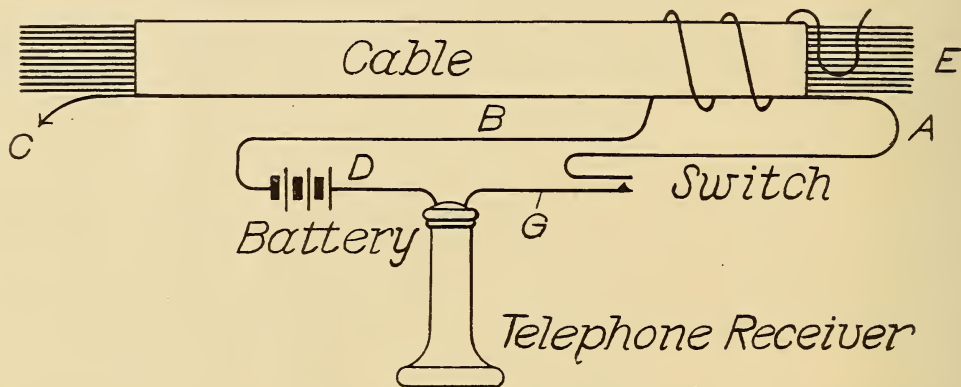

FIG. 10.
Fig. 10 shows a method of cable testing with a telephone receiver. (A) and (C) are both ends of the wire under test (B) and (D) are wires connected to the battery. In arranging the cable ends for the test, at the (E) end of cable remove the insulation from all the wires. Wire (B) is wound around the lead sheathing. At the (C) end of the cable the wires are carefully parted from one another and from the lead sheathing. After making the connections as shown in Fig. 10 the test is made by making rapid taps with the wire (A) on the contact (G). The first tap will produce in the receiver a distant click. If the cable is very long a second faint click may possibly be detected, but if the wire under test is well insulated no more sound will be heard in the receiver after tapping. But if the wire under test is crossed with any other wire in the cable or with the sheathing every tap will be followed by a clear clicking sound and if there is moisture in the insulation which makes a partial connection clicking sounds will occur;